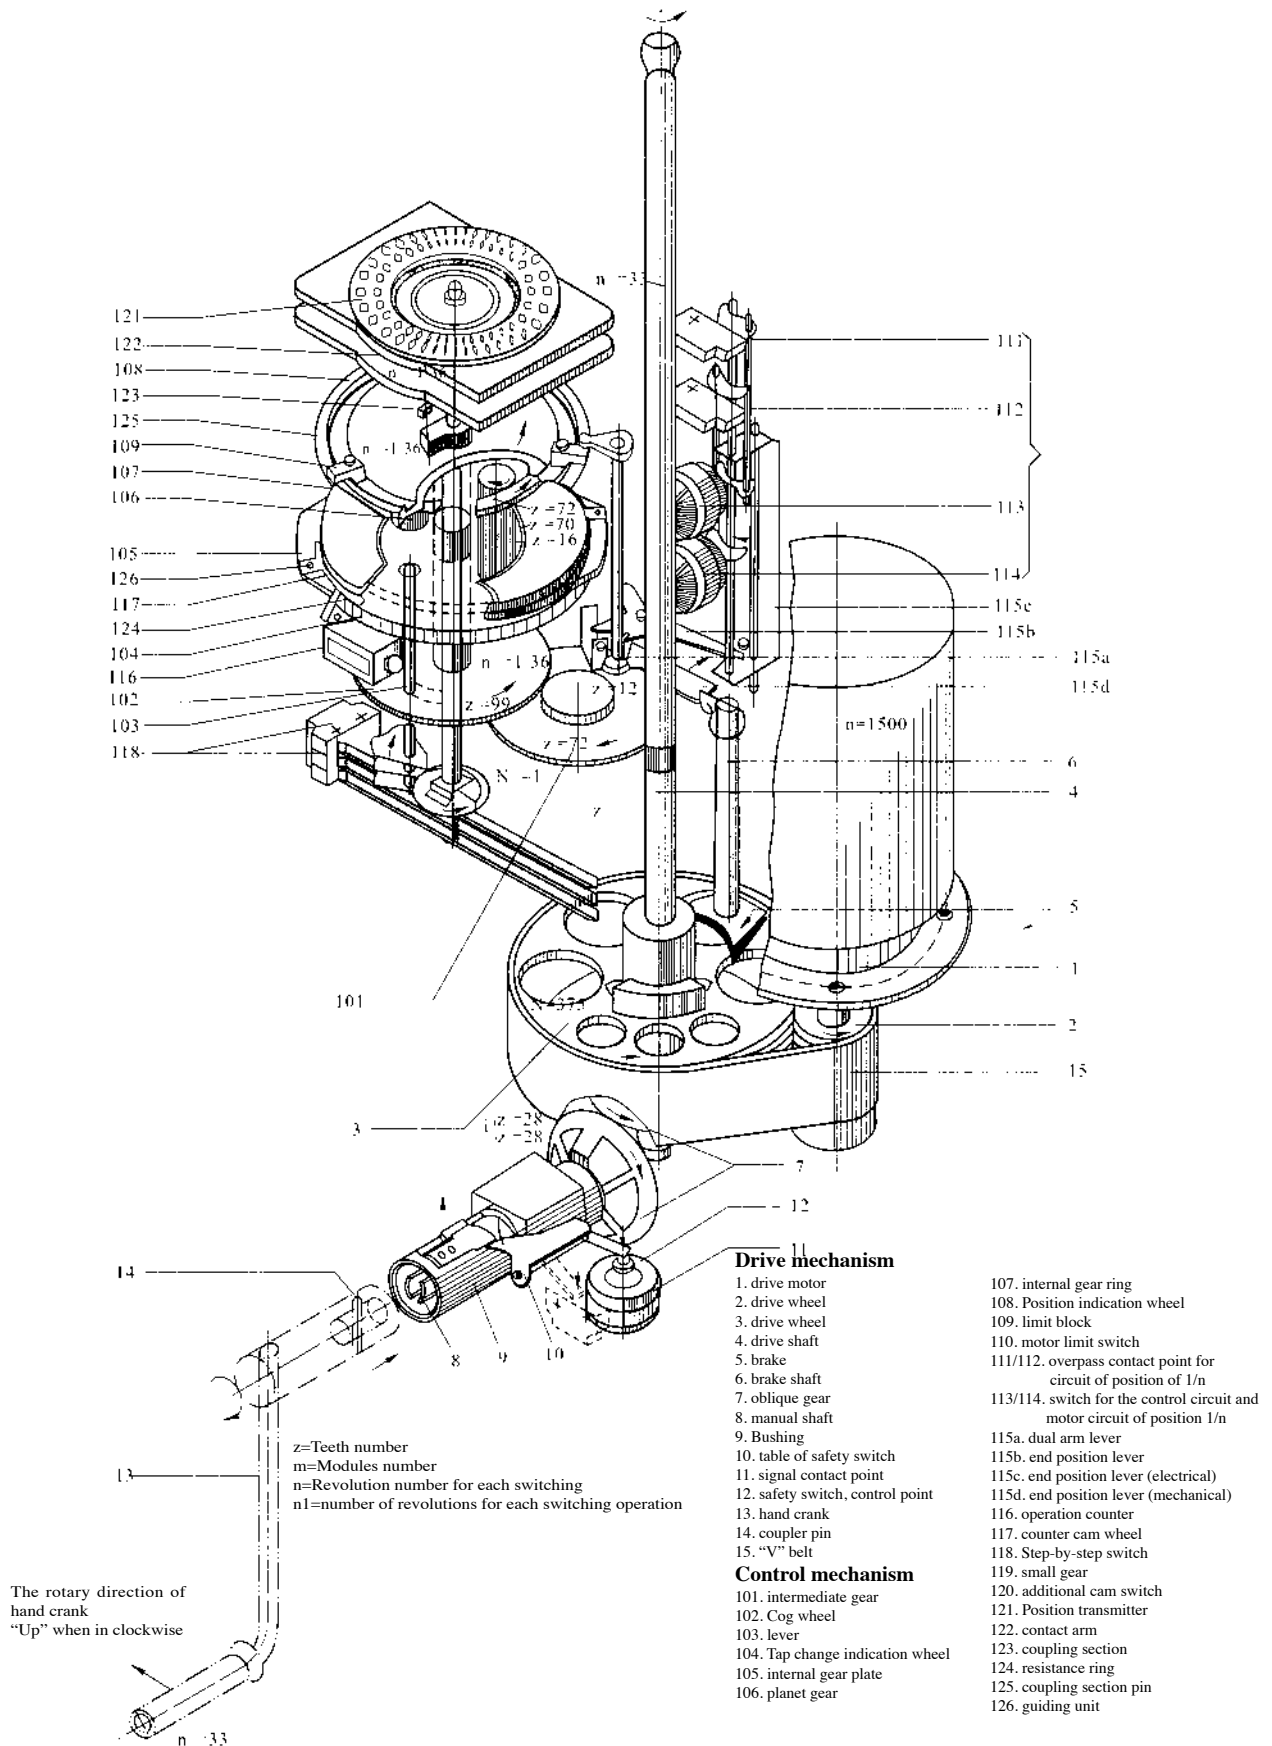

Fig.4 Mechanical principle diagram of Type CMA7 motor drive unit
4.1 Mechanical operation principle (fig.4)